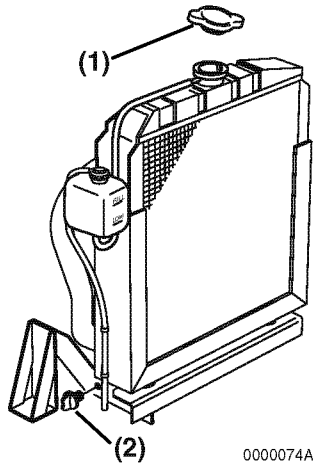

Figure 8-4
- Drain the coolant from the radiator. Remove the radiator cap (Figure 8-4, (1)).
- Remove the drain plug or open the drain cock (Figure 8-4, (2)) at the lower portion of the radiator and drain the engine coolant.